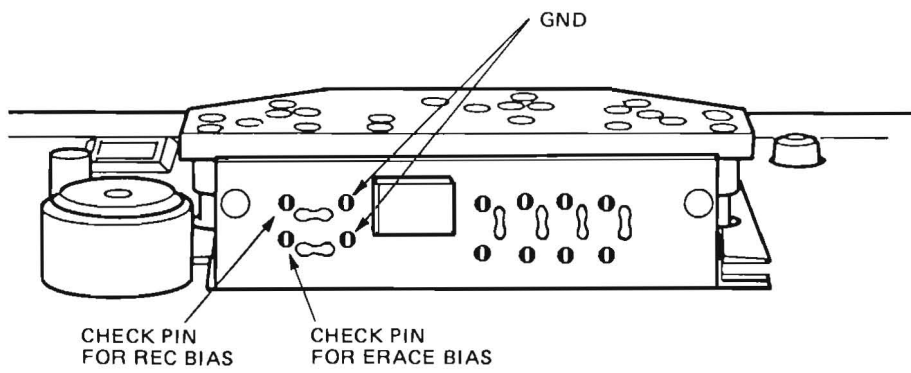

Fig. 4-7
3. Remove the head cover and connect an AC voltmeter and oscilloscope test leads to the Erase Current test points on the Head Assembly PCB as shown in Figure 4-7.